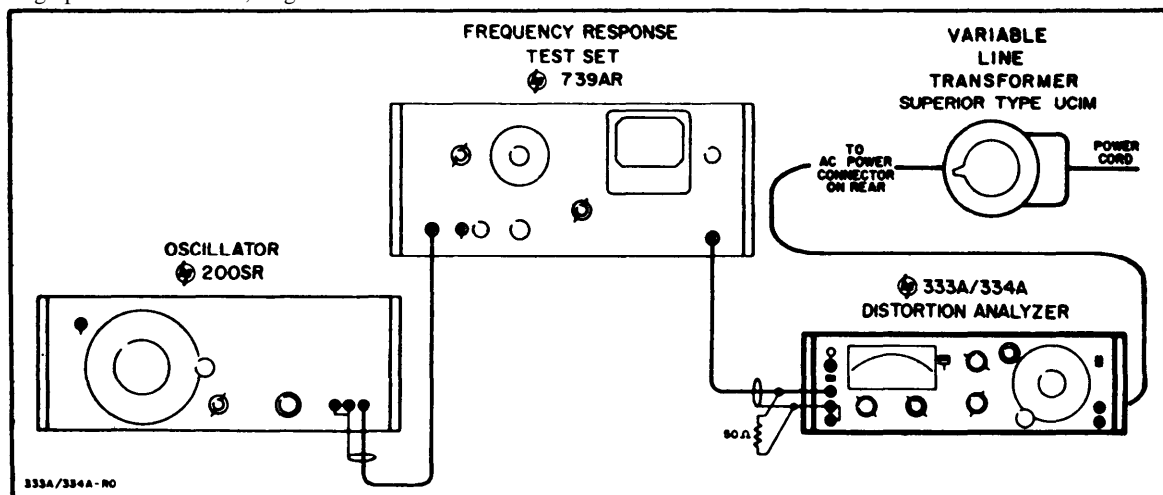

Figure 5-6. Voltmeter Frequency Response Check Test Setup
a. Connect the 333A/334A as shown in Figure 5-6.
- a. Connect Distortion Analyzer to test equipment as shown in Figure 5-6.